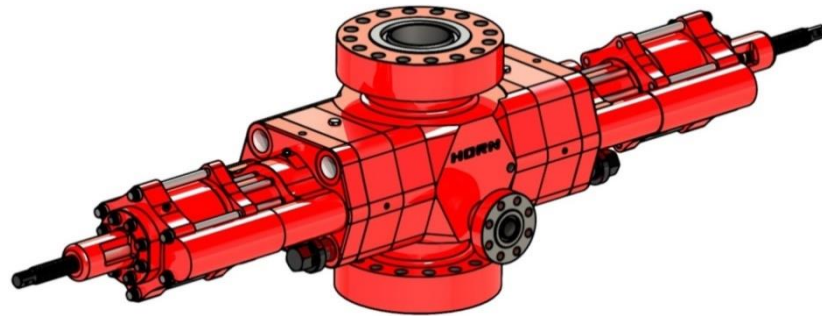

Figure 25: Bonnet Bolts Removed
- i. Top 2 bolts for each bonnet need to be removed from bonnet. (figure 25)